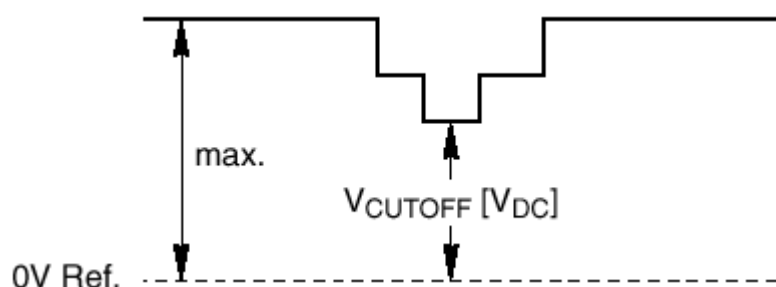

Fig. 2
- Measure the cut off pulse during first full line after the frame blanking (see Fig. 2). You will see two pulses, one being the cut off pulse and the other being the white drive pulse. Choose the one with the lowest value, this is the cut off pulse.